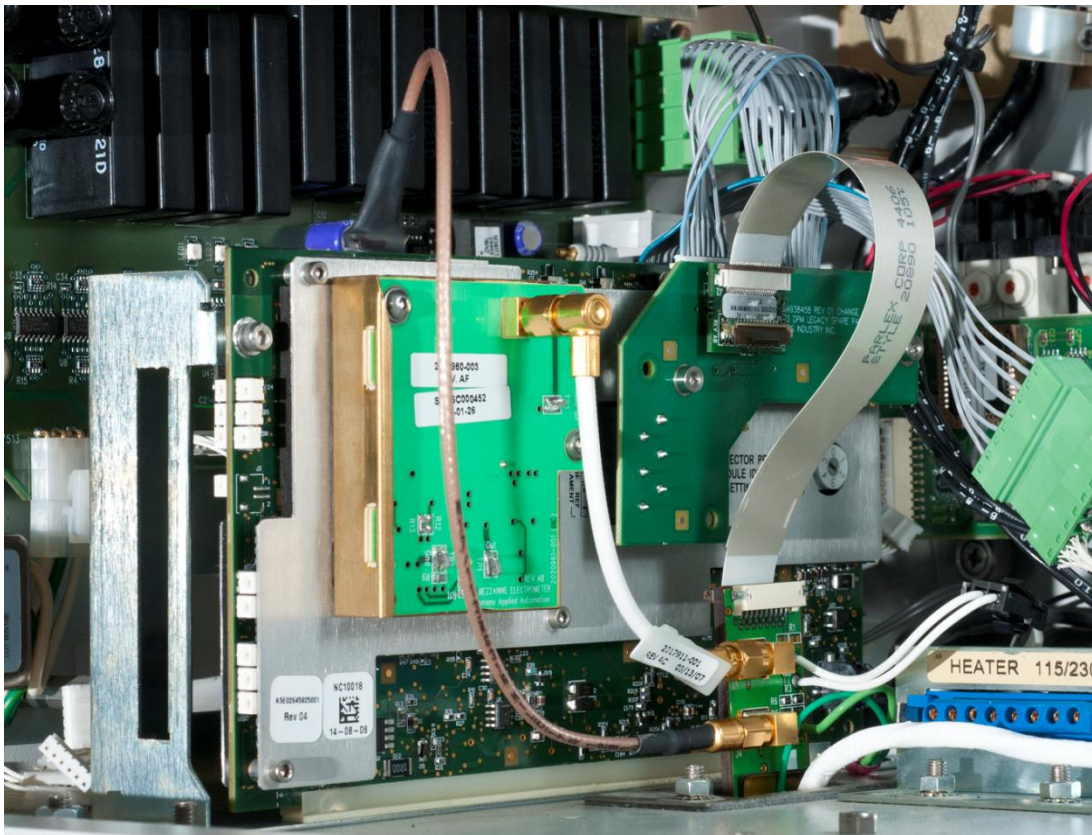

Figure 22. Base3 DPM Interfaced to Original Feedthrough
5. Attach the other end of the shielded 6 inch 30 conductor laminated flex cable (1901381-001) to the OEFT connector as shown in Figure 22.